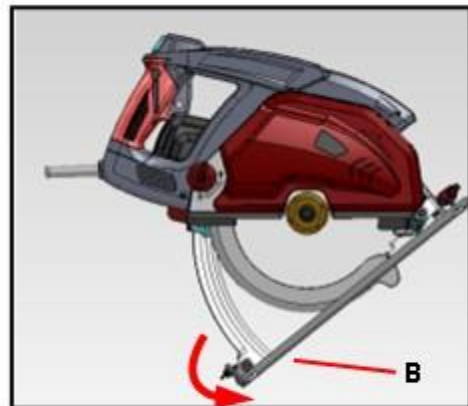

Fig.2
2. Open guide plate to maximum extent (B). **Fig. 2.**